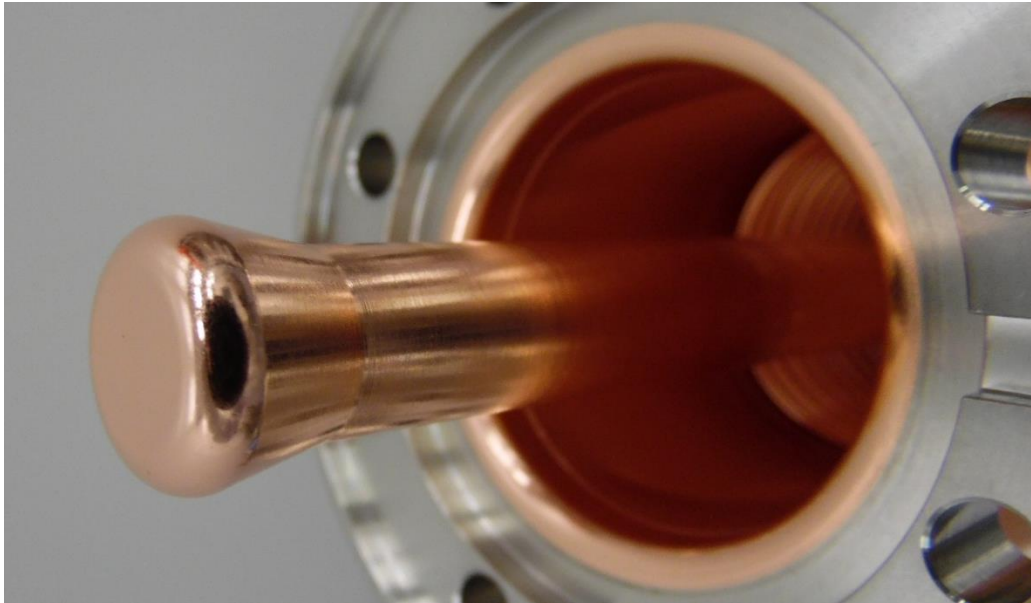

Figure 7.6: Copper antenna tip
- 7.3.5. Visually inspect the end of the copper antenna (Figure 7.6). Generate an NCR if there are any scratches, chemical residue or erosion spots.